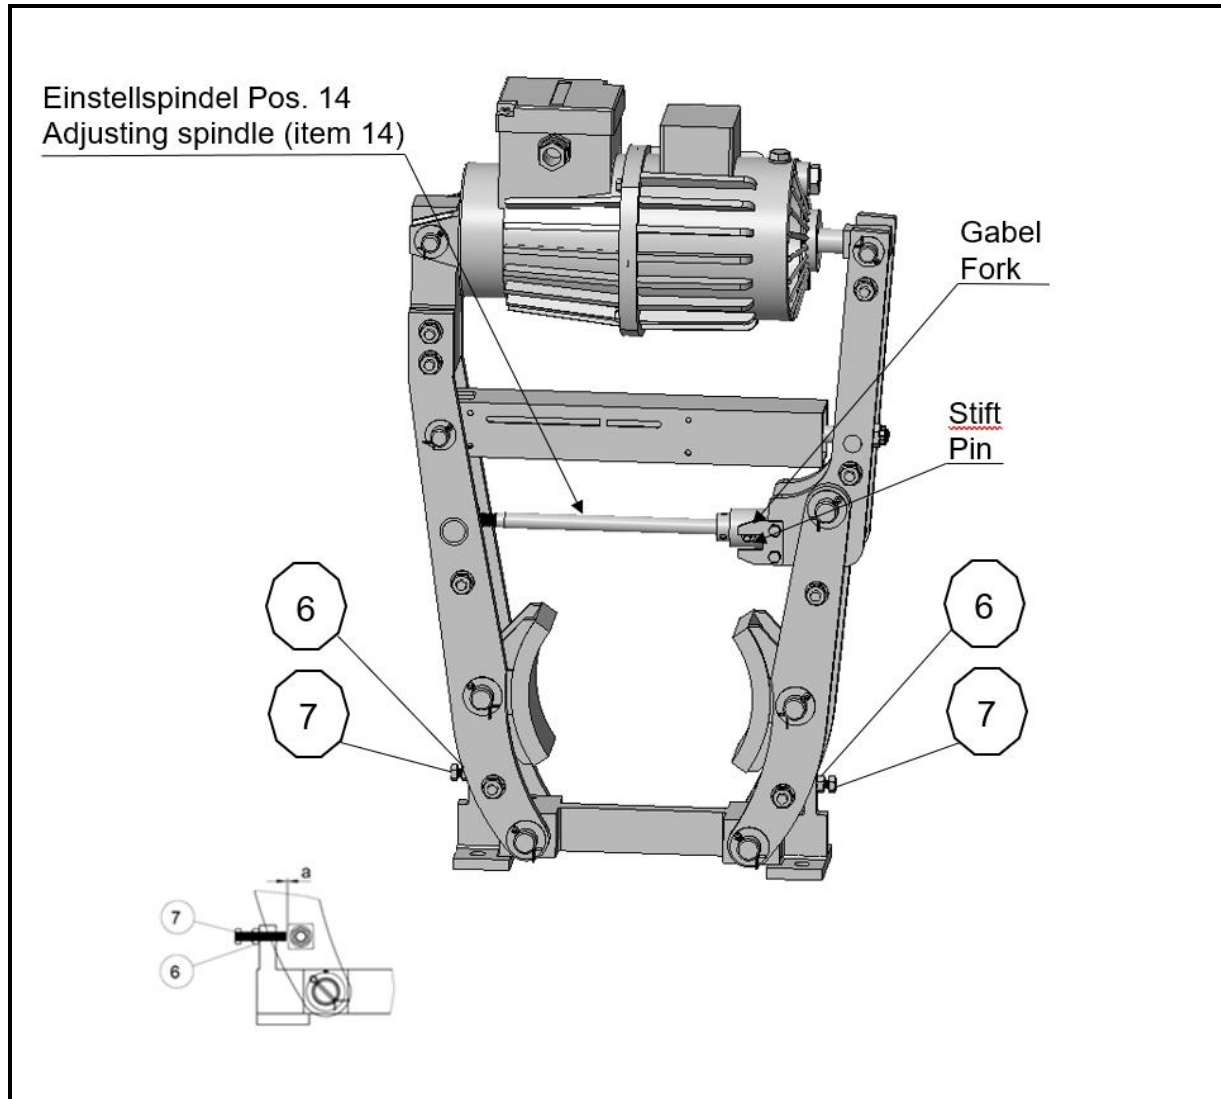

Fig. 8.3
- For the purpose of changing the brake pads, loosen the nut (item 6) and turn the adjusting screw (item 7) out of to maximum surface of the holder.
- Loosen the fork Fig. 8.3 and turn the adjusting spindle (item 14) back until you have enough free space to mount the new brake pads.
- Now you can loosen the old brake pads and move then the pads topward for easy exchange. The new pads mount in the same way fix the axes (item 3) the washer (item 4) and the split pin (item 5) don't forget to bend the split pin (item 5).
- Reassemble the fork Fig. 8.3 and activate the brake multiple times the automatic process will start and adjust the clear distance between the brake pads of approx. 3 mm.